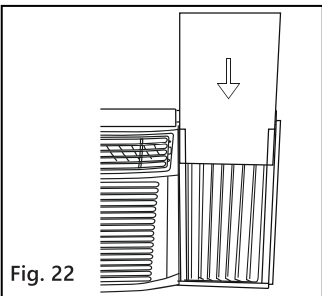

Fig. 22
- C. Slide the accordion panel insulation into the side curtain. The side with the pattern should facing indoors. (Fig. 22).